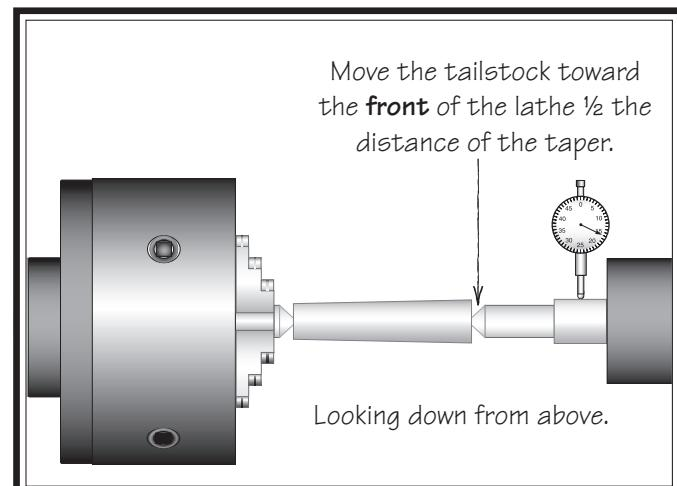

Figure 32. Adjust tailstock toward the operator.
- If the test stock is *thicker* at the tailstock end, move the tailstock top casting toward the *front* of the lathe $\frac{1}{2}$ the distance of the amount of taper (see **Figure 32**).